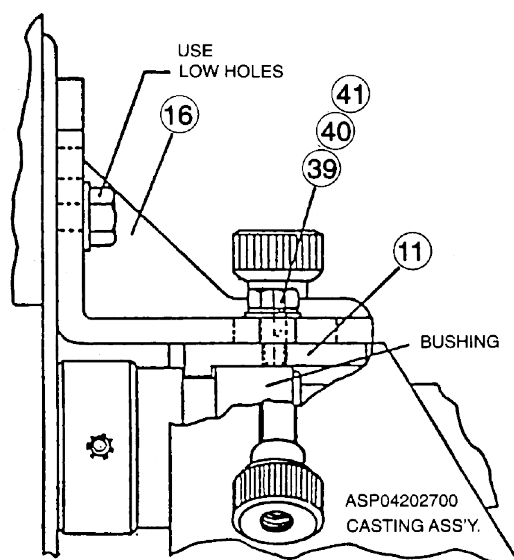

FIG 9
5. Place cable through back of power feed while sliding power feed unit over cable into proper position on upper front casting assembly. Make certain lip of bushing lock engages slot in distributor arm bushing (Fig. 9). Swing up clamps on upper front casting into slots provided on mounting plate lock down tight. Now, tighten bushing lock screws.